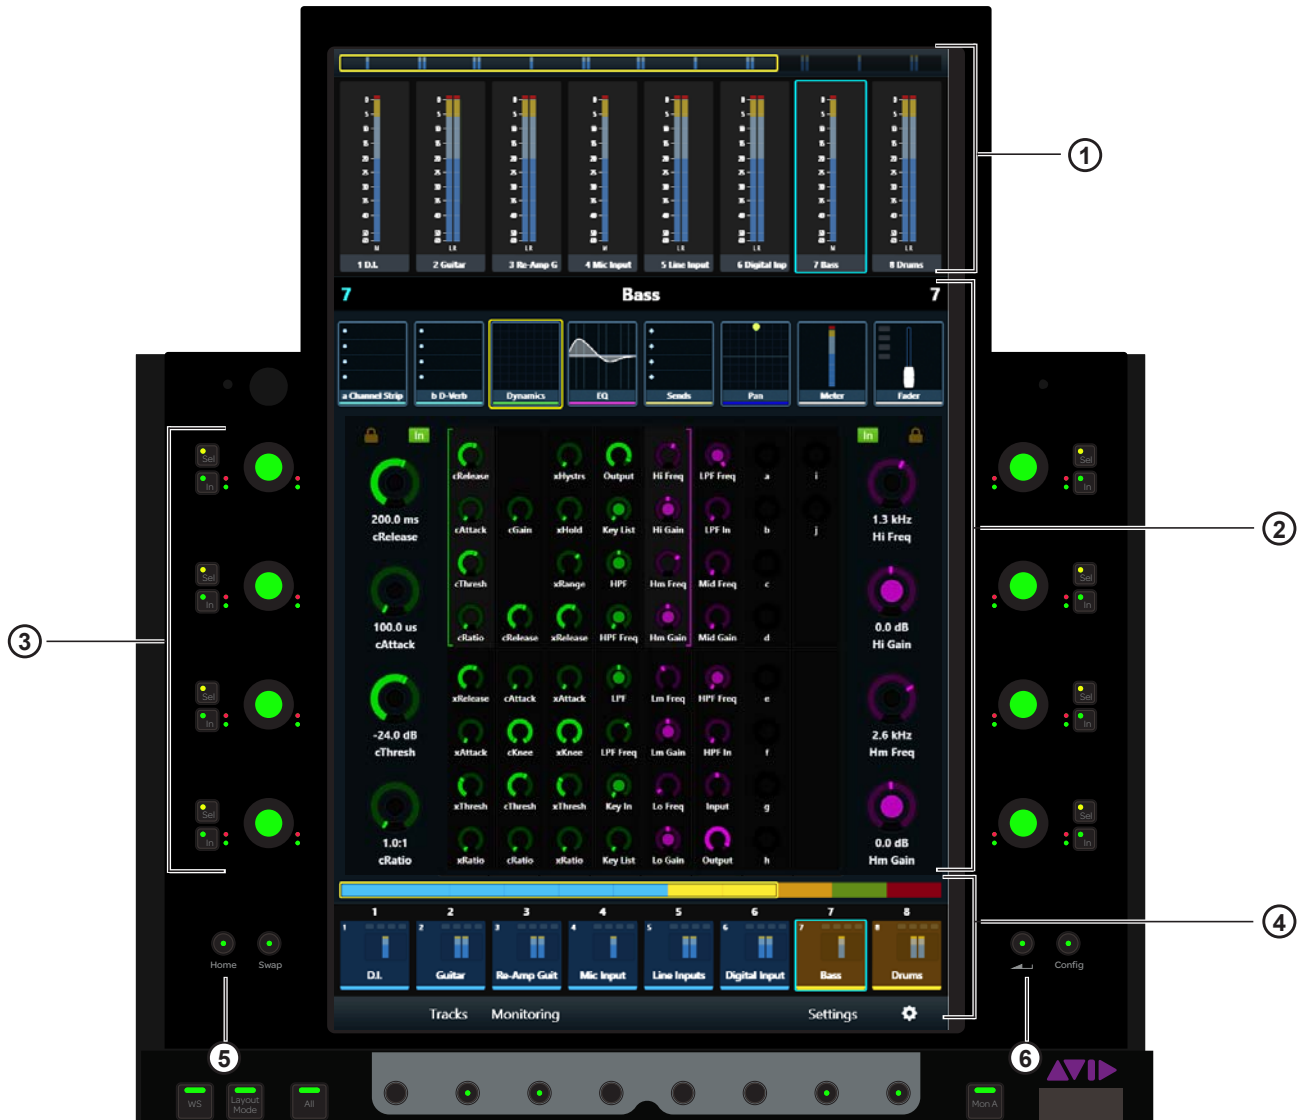

Figure 17. Home screen
- Press **Home** (5 on left of Figure 17) on the Master Module.